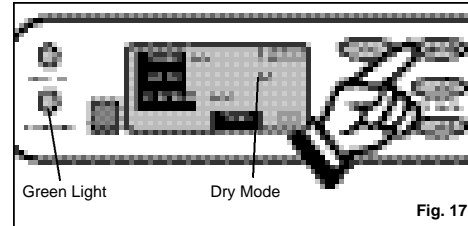

Fig. 17
- 2) Press the **MODE** key until the word **DRY** (Dehumidifying) is displayed in the **LCD** display window. *Fig. 17*. Each depression of the **MODE** key will advance to a different mode setting (**Cool-Heat-Dry-Fan**).